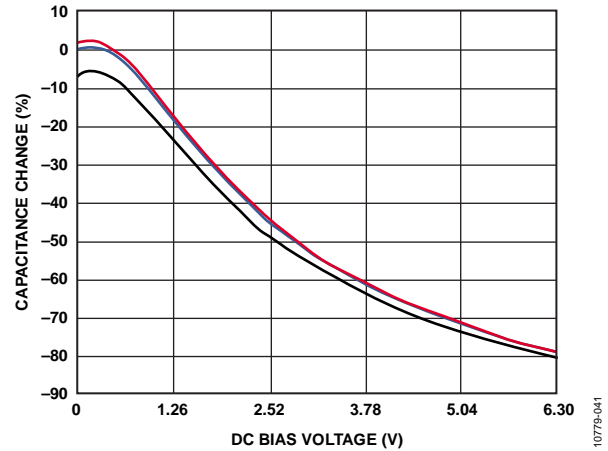

Figure 41. DC Bias Characteristic of a 6.3 V, 10  $\mu\text{F}$  Ceramic Capacitor
- $C_{OUT}$  at  $V_{OUT}(\text{max}) = 5\text{ V}$ , is 3  $\mu\text{F}$ , as shown in Figure 41.